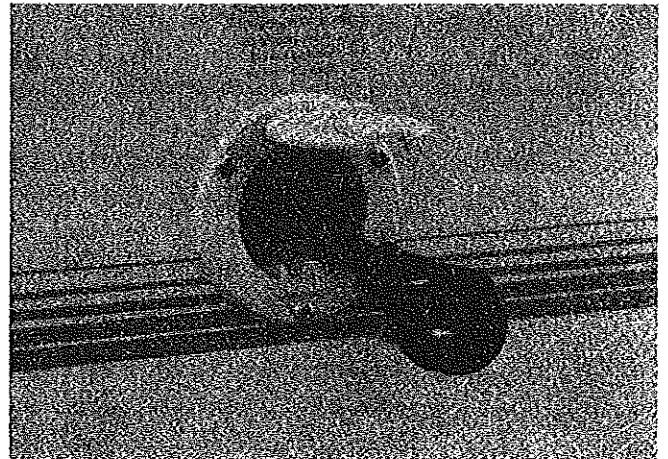

FIGURE 47
54. When the campsite provides an electrical system: Lift up the cable hatch cover, grasp the self-storing power cord plug and pull it out. See Figure 47. Plug the power cord into the campsite-provided outlet. From inside the trailer at the power supply center, set the converter switch to the "CONVERT" position.